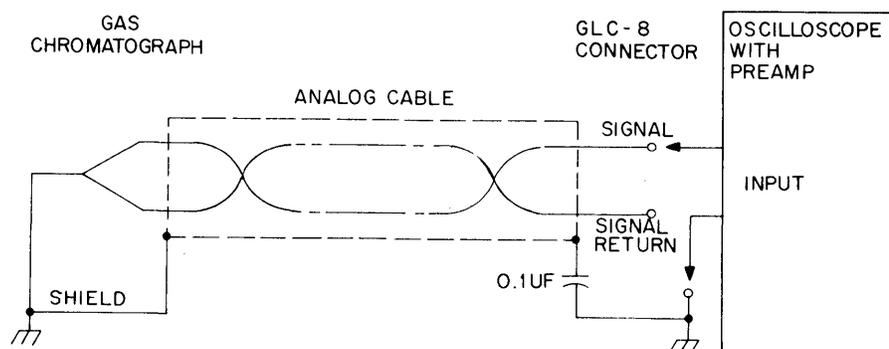

Figure 4-7 Common Mode Noise Analysis Test Setup
c. On completion of the installation of the cable assembly, the common-mode noise content of the installation is measured to determine the error introduced into the system due to common-mode noise. The output of the gas chromatograph is measured from both signal line to shield and from signal return line to shield at the GLC-8 connector with an oscilloscope and preamplifier. The test set-up for measurement of common-mode noise is shown in Figure 4-7. As previously mentioned, the system has a common mode rejection ratio of 120 db, at 60 Hz with a worst case source unbalance of 1000 ohms. Therefore, for each volt of common-mode voltage measured, one microvolt of noise will be seen at the A/D converter. If the minimum signal output of the gas chromatograph is 10 μ V, it follows that the maximum noise that the system can tolerate is 10V. If the measured common-mode noise is 10V or greater, the grounding system of the gas chromatographs should be modified as indicated in the installation and planning sections.